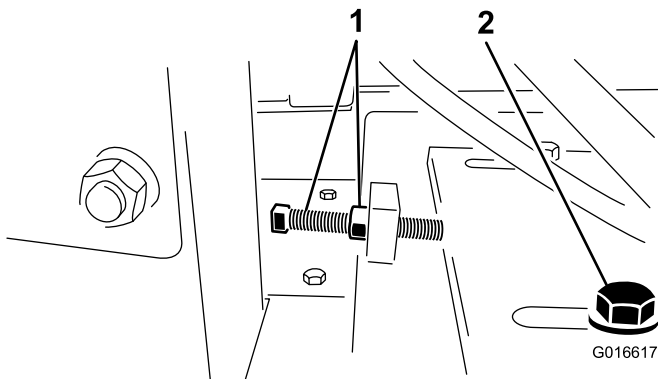

Figure 18
4. Loosen the belt tension bolt and jam nut, slide the engine toward the flywheel housing to loosen belt (Figure 18).